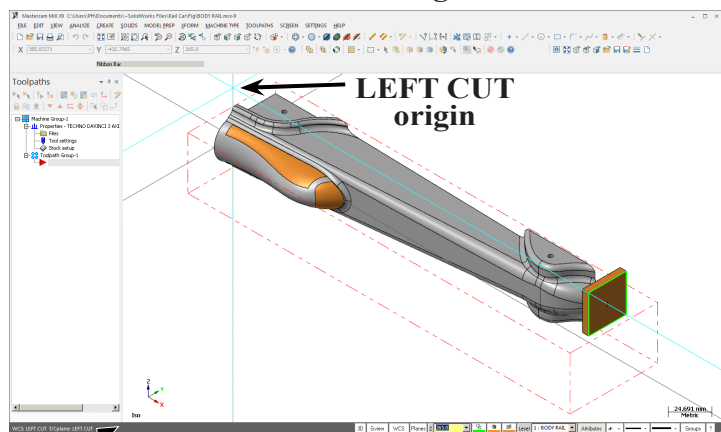

Fig. 3
Step 10. Click OK  in Machine Group Properties. The Stock is displayed as red wireframe, **Fig. 3**.
Step 1. In bottom left corner of display, confirm Tool Plane (T/Cplane) is **LEFT CUT**, **Fig. 3**.